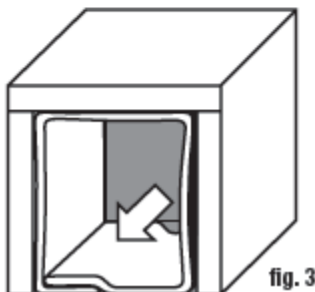

fig. 3
- Install the Thinsulate™ Acoustic Insulation (fig. 3).